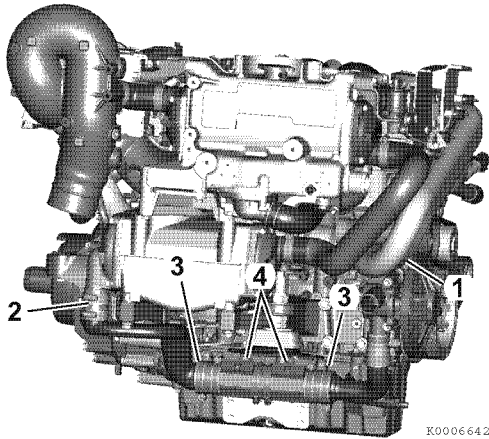

Figure 7-10
2. Loosen clamps and remove seawater pipe (1, **Figure 7-10**).
3. Loosen clamps and remove seawater pipe (2, **Figure 7-10**).
4. Remove hydraulic lines from ports (3, **Figure 7-10**). Allow fluid to drain into an appropriate container. Dispose of waste properly.
5. Loosen clamps (4, **Figure 7-10**) completely and remove hydraulic oil cooler.
7. Install cooler and tighten clamps (4, **Figure 7-10**).
9. Install seawater pipes (1 and 2, **Figure 7-10**). Tighten clamps securely.